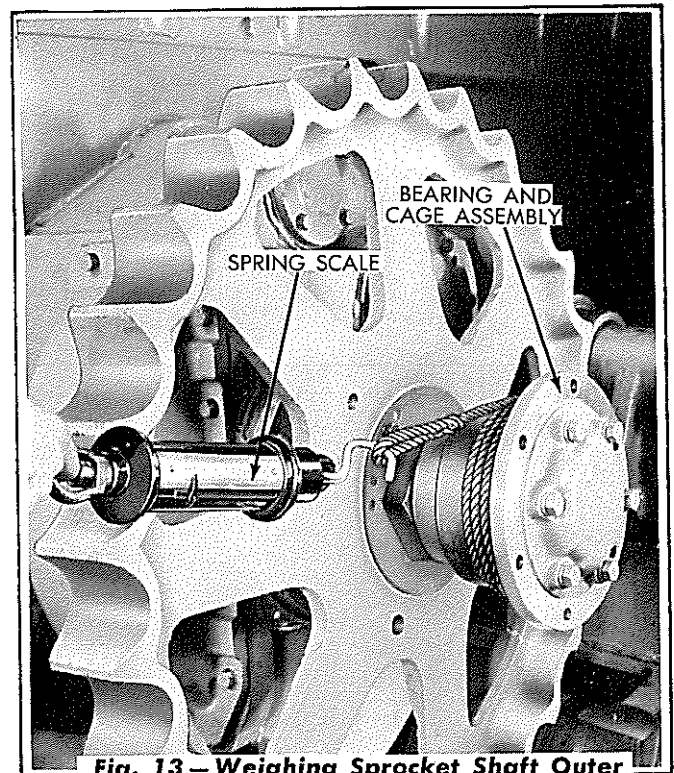

Fig. 13 – Weighing Sprocket Shaft Outer Bearing Pre-Load
3. The sprocket shaft outer bearing is correctly adjusted when it has 19 to 25 inch pounds pre-load. A spring scale, sometimes called a fish scale, may be used to weigh the bearing pre-load. Refer to Fig. 13.